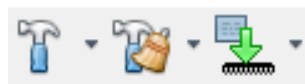

Figure 30: *MPLAB X* Clean and Build Main Project button
4. Go to **Run** → **Clean and Build Main Project** or click the *hammer with brush* button as seen in Figure 30. After building there should be a message BUILD SUCCESSFUL in the message area at the bottom of the screen.
Arrow button as seen in Figure 30. If there is a message similar to *MICROSTICK not Found* try to select the *Starter Kits (PKOB)* item which represents your board.